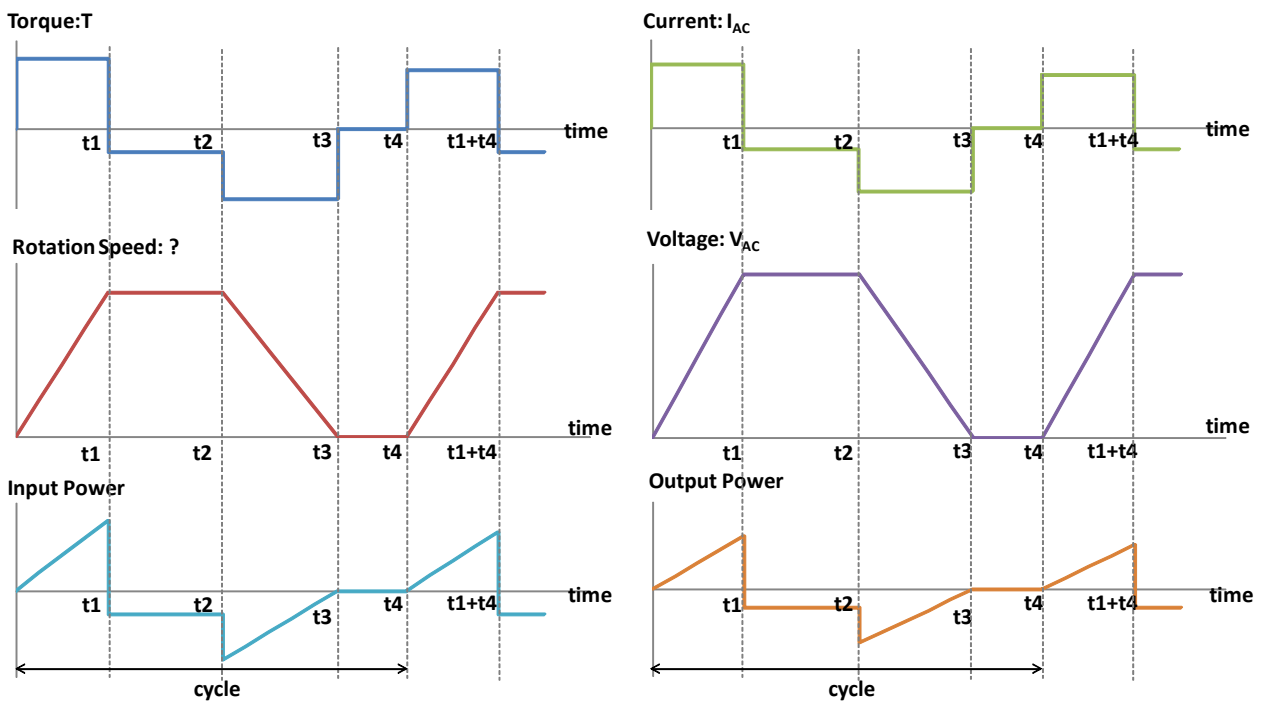

Figure 7.1-2. General cycle of motor : Constant rotation speed with negative torque.
**Condition 2:** Constant rotation speed with negative torque. A drive operates in regenerative mode when the rotation speed is constant and decreases, shown in Figure 7.1-2
We only consider the negative power in regenerative mode. Output power in figure 7.2-1 and figure 7.2-2 shows the braking power from figure 7.1-2 and figure 7.2-2. Maximum braking power  $P_{MAX}$  means the maximum power in regenerative mode. Duty cycle defines as the ratio of operating time in maximum braking power to total time.